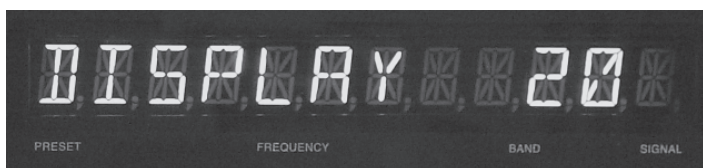

Figure 3
The DISPLAY Push-button allows for adjustment of the Front Panel Alphanumeric Display Brightness from Off (0) to Bright (31) and for Custom Naming Station Presets with the name of your choice. Refer to figure 3.